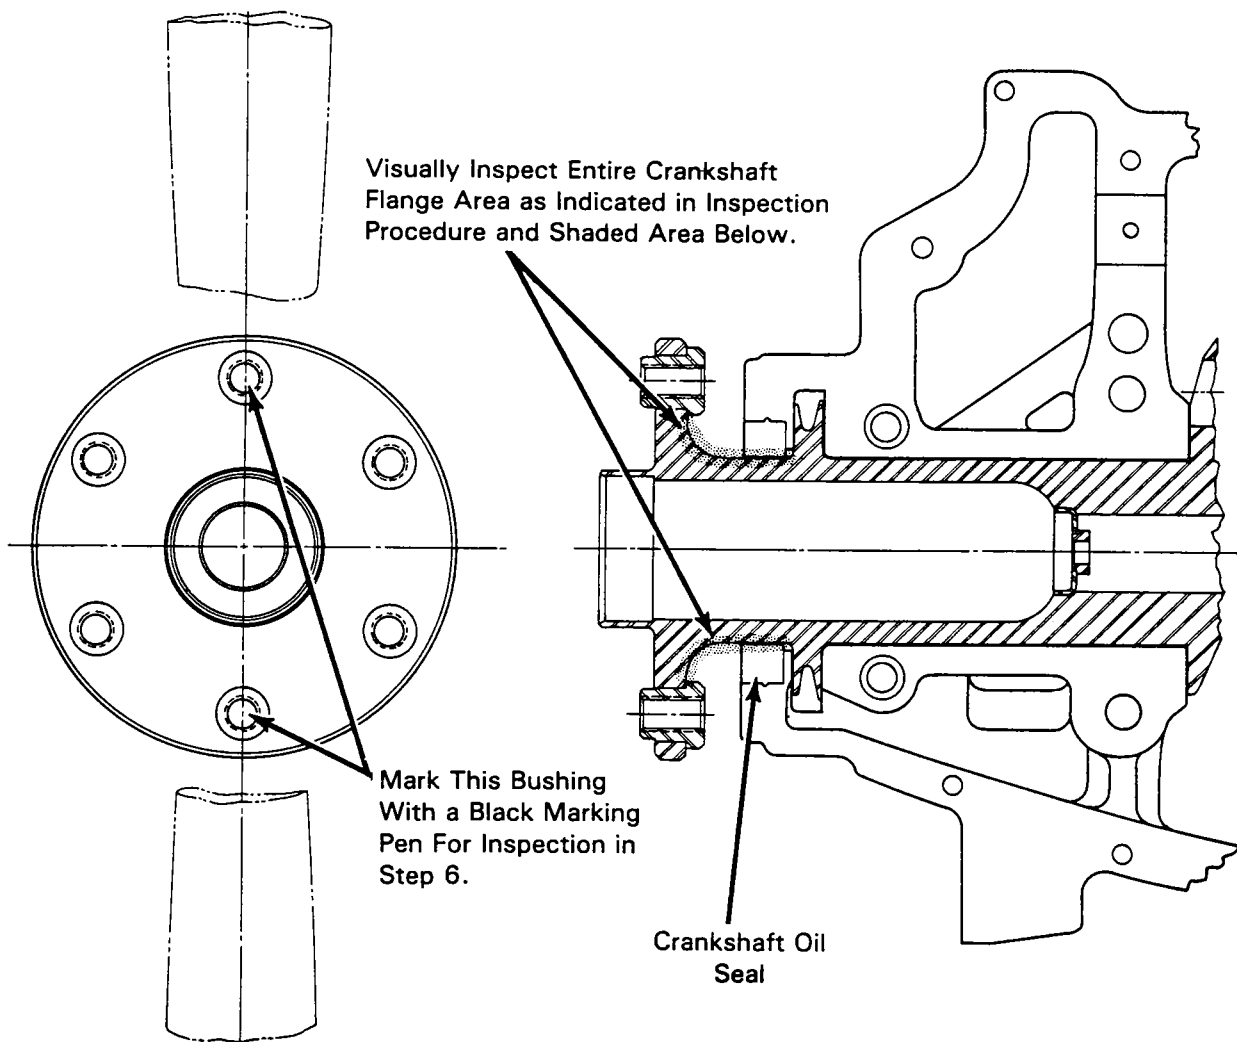

Figure 1. Visual Inspection of Crankshaft Flange Area
Unlimited category maneuvers such as multiple snap rolls, inverted flat spins, lomcevak, etc. produce severe bending loads on the propeller flange area. Exceeding the engine maximum rated speed and/or using the aircraft in maneuvers which produce rapid angular propeller centerline acceleration may result in crankshaft failure. Any engine which has been subjected to unlimited category aerobatic maneuvers must be inspected for cracks in the crankshaft flange area within the next 10 hours. See Figure 1.
3. Remove the propeller and starter ring gear and using a black marking pen, mark the two bushings directly in line with the propeller blades as shown in Figure 1.